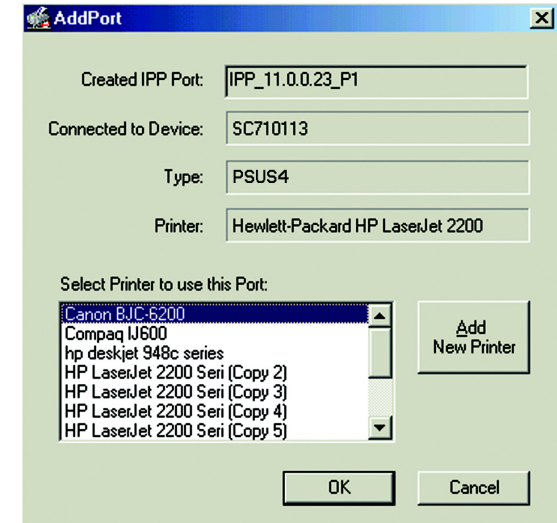

Figure 7-2: AddPort
5. Click Save to create the IPP port on your system. You will see a message confirming that the port has been created and then Figure 7-2.